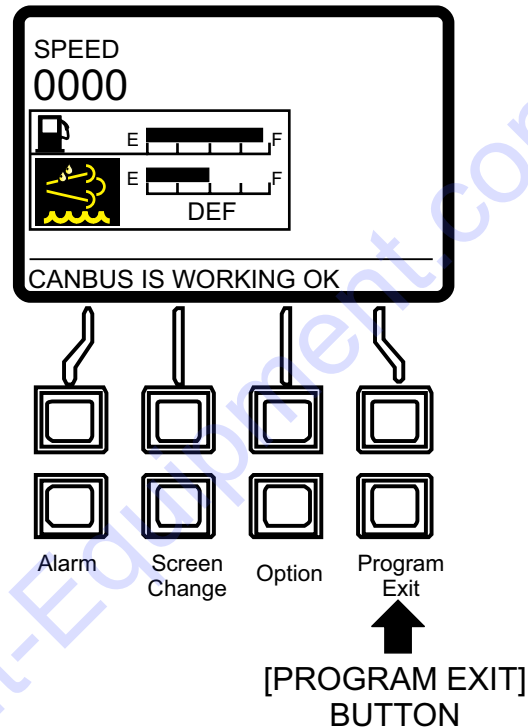

Figure 84. Main Screen
3. Press the **[Program/Exit]** button (Figure 84) to enter the Main Menu.